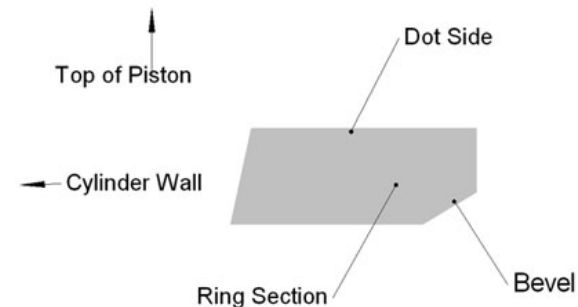

Figure 5
3. Unmarked rings with an inner bevel install bevel side down. (Figure 5)